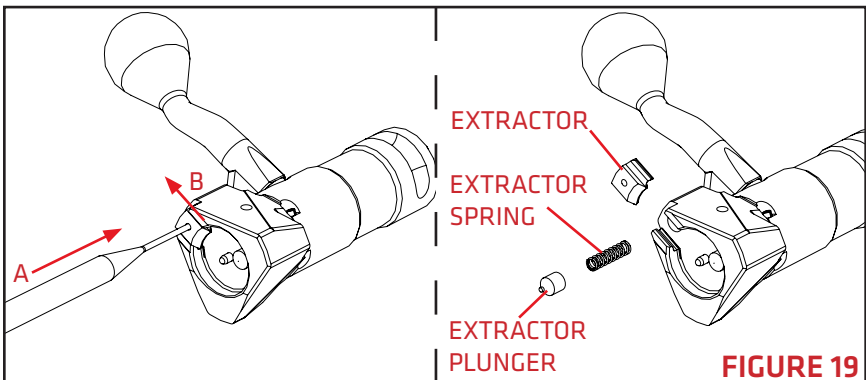

FIGURE 19
1. To remove the extractor, depress the extractor plunger by inserting a 1/16 inch (1.5mm) pin punch through the extractor hole (**FIGURE 19-A**). While depressing the plunger, slide the extractor away from the firing pin hole (**FIGURE 19-B**).